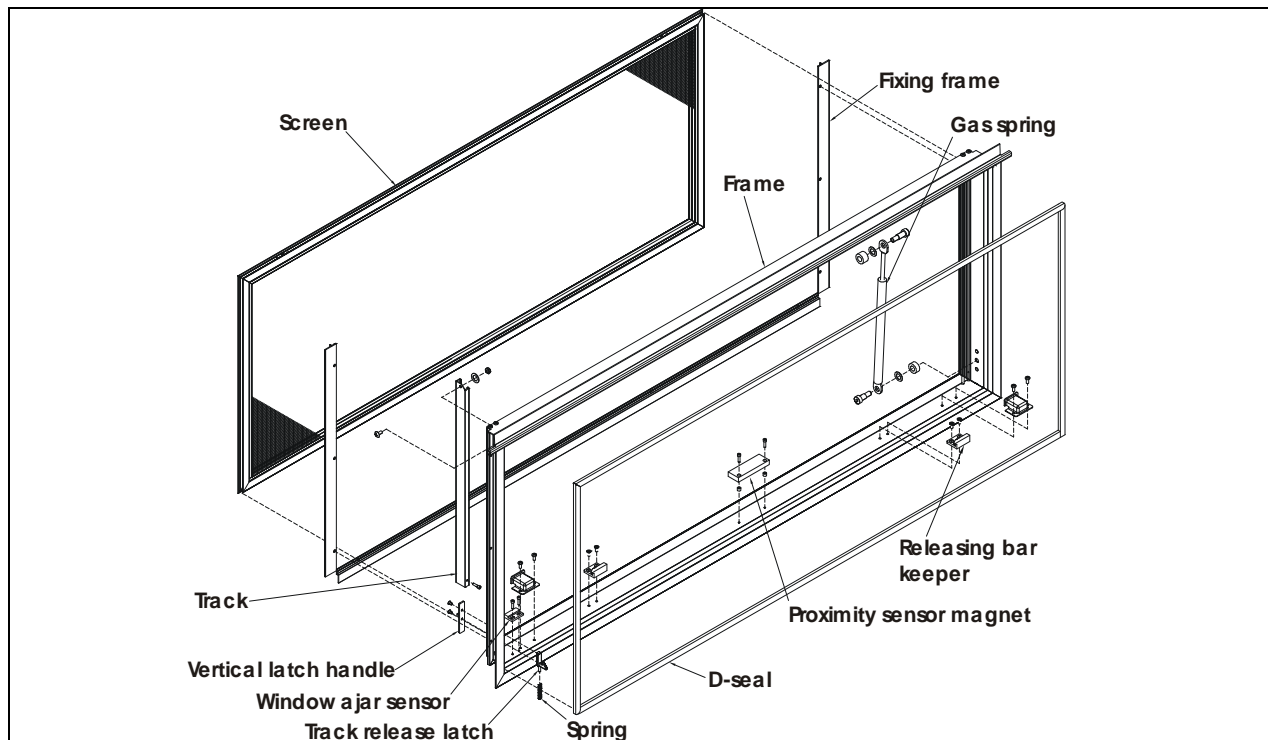

FIGURE 61: ELECTRIC AWNING WINDOW EXPLODED VIEW (FRAME) 18586
4. Loosen the set screws #5 (figure 61) (rotate the arm to get to the second set screw) and